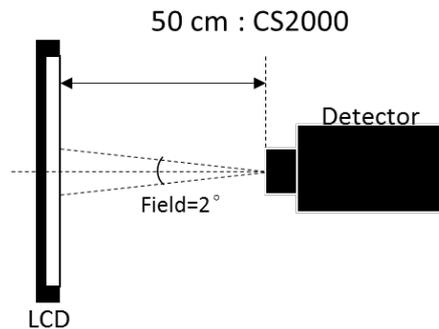

Fig.4.1 Measurement equipment.
- (1) Each chromaticity coordinates (x, y) are measured in CIE1931 color space when full-screen displaying (Red, Green, Blue, White) and light source is defined by C-light, Measurements shall be made at the center of the panel, and setup of measurement is shown in Fig.4.1.
- (2) The color gamut is defined as the fraction in percent of the area of the triangle bounded by R, G, B coordinates and the area is defined by NTSC 1931 color standard in the CIE color space. Chromaticity coordinates are measured by CS2000 and the standard setup of measurement is shown in Fig.4.1.
- (3) Definition of Transmittance (T%):
(6) Definition of Viewing angle:
As Note (4) the static contrast ratio definition, the viewing angles are defined at the angle that the contrast ratio is larger than 10 at four directions relative to the perpendicular direction of the HKC's module (two vertical angles: up θ_{y+} and down θ_{y-} ; and two horizontal angles: right θ_{x+} and left θ_{x-}). The standard setup of measurement is shown in Fig. 4.1 & 4.4.